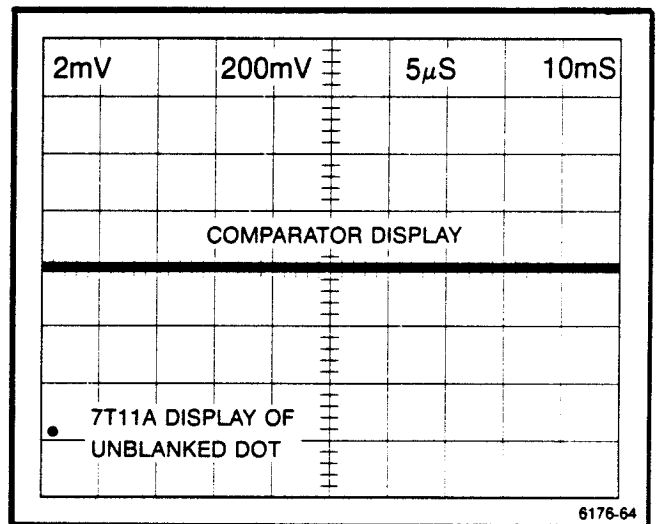

Figure 5-9. Typical display for adjusting Dot Position Memory (A1R645) and Servo Zero (A1R588).
- f. **ADJUST**—Dot Position Memory adjustment R645 (on Logic board assembly A1) for an unblanked dot on the oscilloscope display while adjusting Servo Zero adjustment R588 to maintain 0 V on the Comparator display (see Figure 5-9).